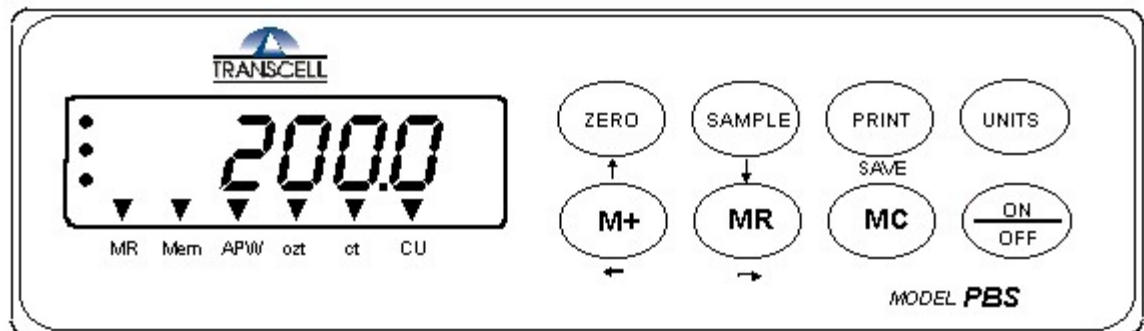
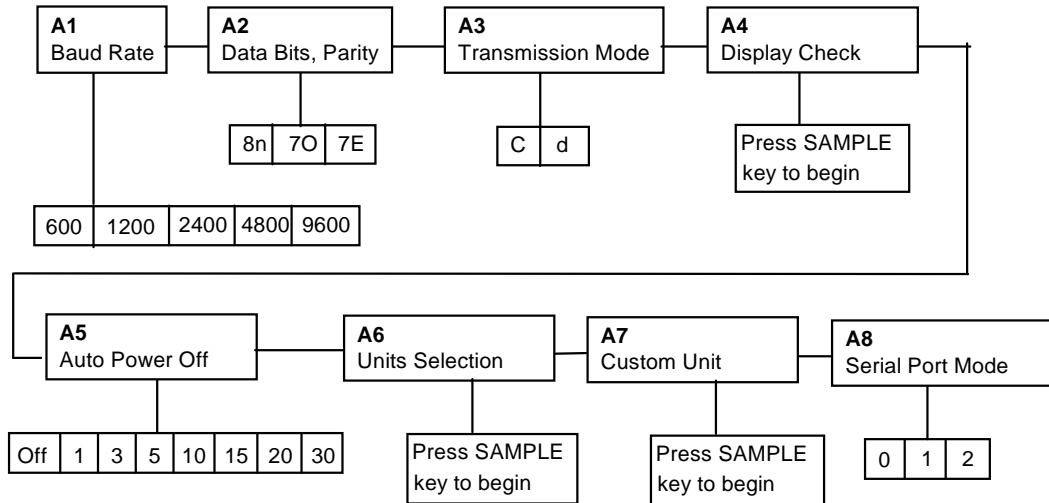

Figure 5-1: User Menu Key Assignments
Figure 5-2: User Menu Chart
Use the directional keys shown in Figure 5-1 to move around in the User Menu Chart shown in Figure 5-2 on the following page.
3. Use the left or right directional keys (shown in Figure 5-1 above) to move the decimal point position to the correct position. Pressing the M+ key or the MR key will change the position of the decimal point.
6. Use the four directional keys (shown in Figure 5-1 above) to adjust the displayed value to the actual custom unit multiplier value. Increase the flashing digit by pressing the ZERO key. Decrease the flashing digit by pressing the SAMPLE key. Pressing the M+ key or the MR key will change the position of the flashing digit.